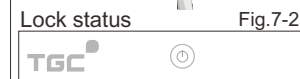

Fig.7-2
(2)TGC indicator lights, other function icons are not displayed. The control panel is locked. (Fig.7-2)